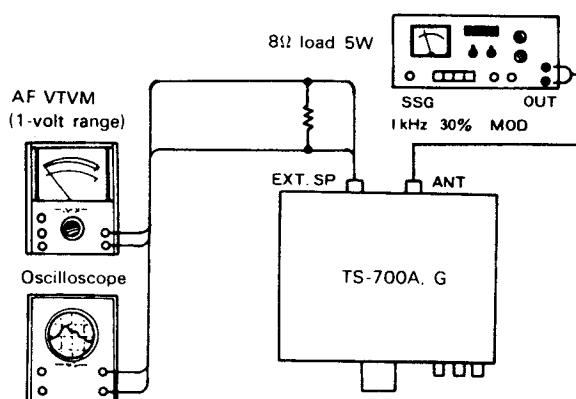

Fig. 17
Cable the equipments as shown in Fig. 17.
- 1) Referring to Fig. 17, feed the SSG output of 146.5 MHz (700A), 145MHz (700G), not modulated, at 10µV (20 dB) into the transceiver set for FM mode reception. The input level should be such that the pointer of "S" meter will swing to and stay at the middle position on the scale.